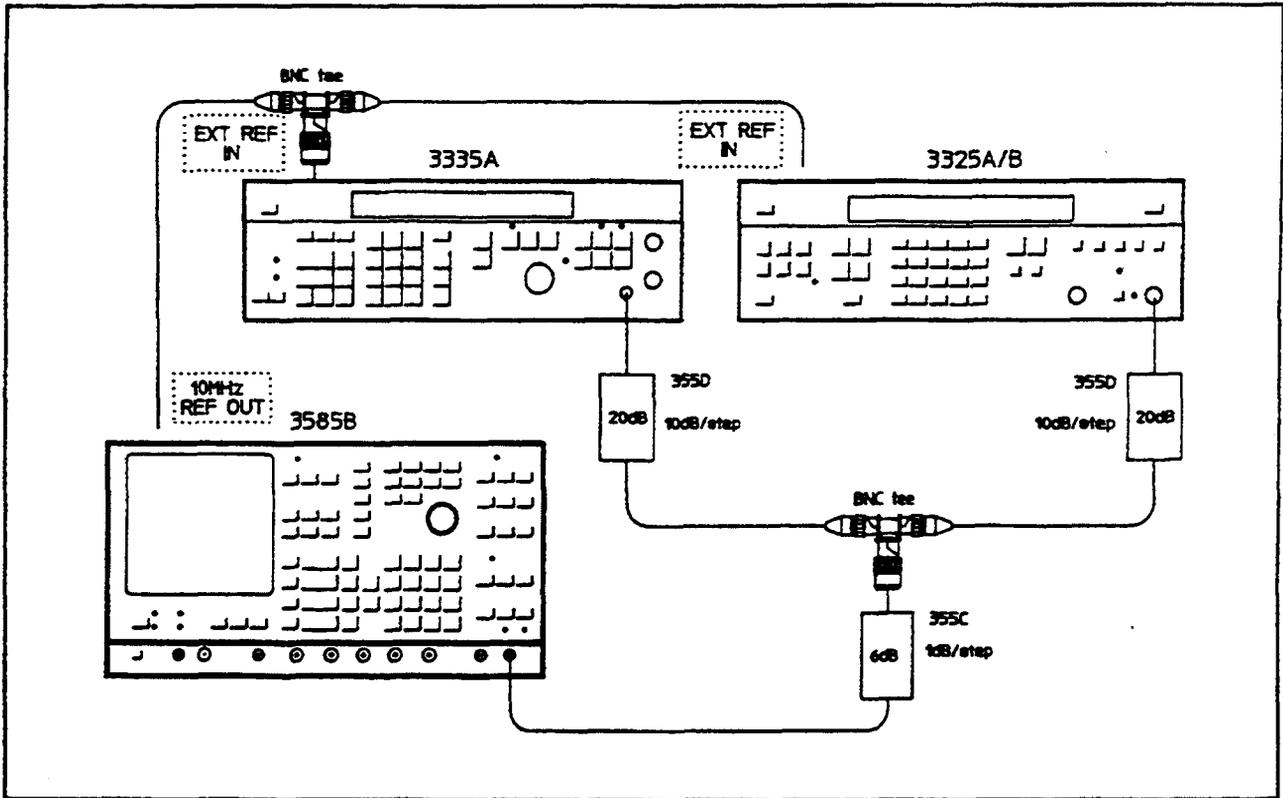

Figure 4-5.
**Equipment:** 3335A, 3325B, (2) 10 dB Step Attenuators(355D), 1 dB Step Attenuator(355C), BNC Tee.
- a. Connect equipment as shown in Figure 4-5. Set the attenuators connected to the sources to the 20 dB step. Set the attenuator connected to the 3585B to the 6 dB step.